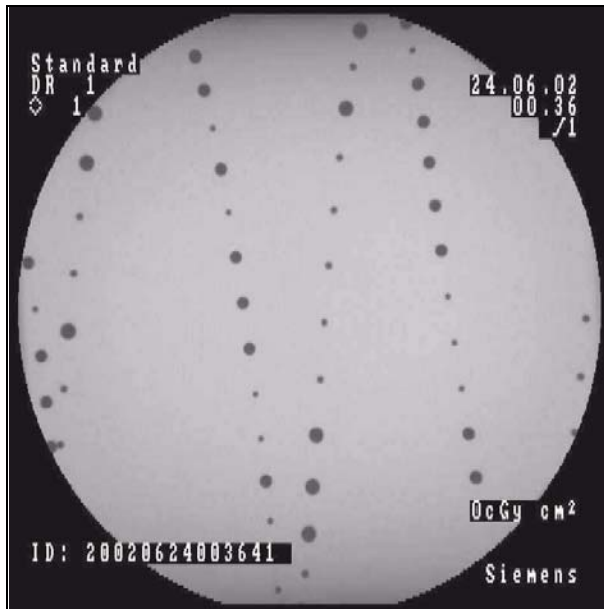

Fig. 5
- Align the C-arm correctly to the markings on the calibration phantom, first in the vertical (Fig. 3) and then in the horizontal (Fig. 4) C-arm position. Briefly perform fluoroscopy and check the position of the C-arm relative to the calibration phantom (see also Fig. 5).
- Check that the calibration phantom is positioned in the isocenter. To do so, check both the horizontal and vertical adjustment at least 2x (see also Fig. 5).
- ⇒ Example of a correctly positioned calibration phantom. The tips of the sphere pattern must not be visible at the top and bottom image edge (Fig. 5).